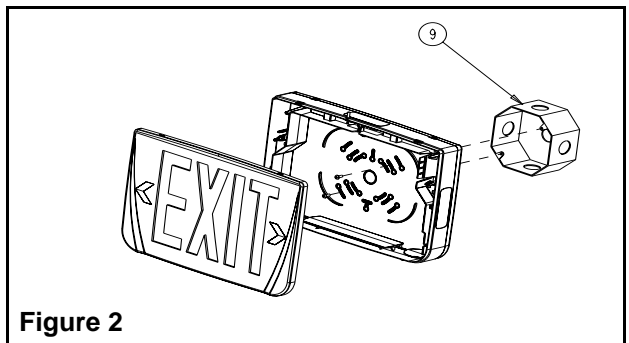

Figure 2
- a. No canopy required. Knock out the proper hole pattern in the back cover to mount to standard junction box (See Fig. 2). Feed the AC supply leads through the center hole and make the proper connections. Feed the excess wire into the junction box and secure the back cover to the junction box using the junction box screws. Proceed to step 6.